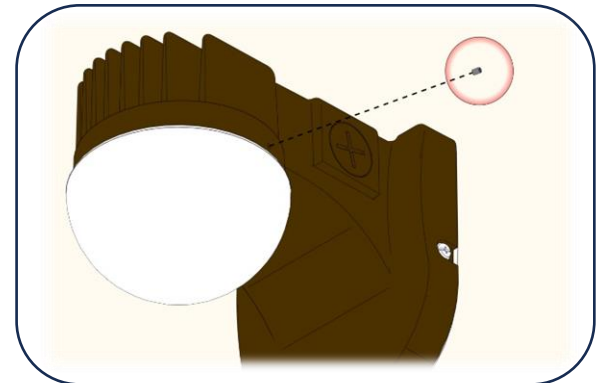

Figure 6
1. Loosen the small set screw with the provided hex key. [Figure 6]